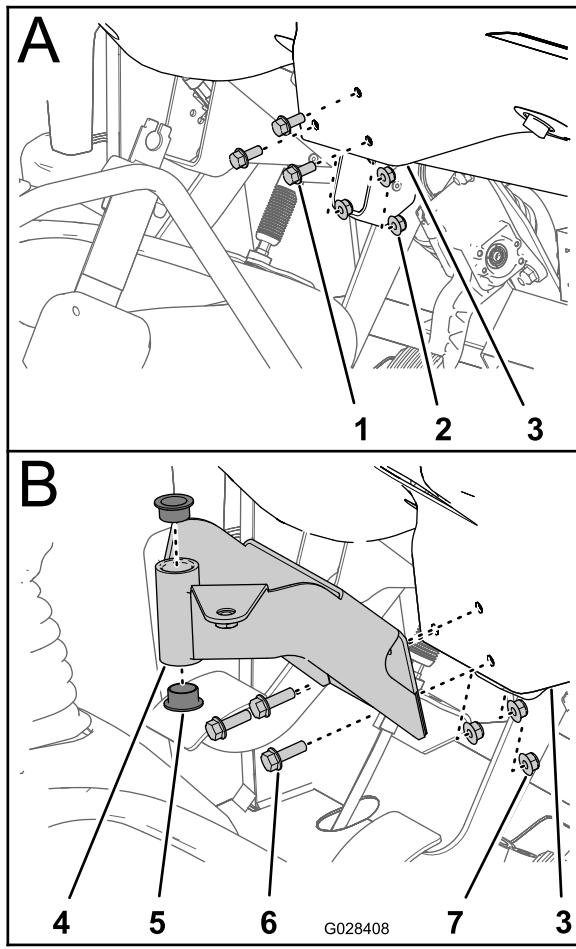

Figure 7
1. Remove the 3 bolts and 3 nuts that secure the lower-center portion of the dash panel to the dash support bracket (Figure 7).
2. Align the holes in the mounting bracket for the control console with the holes in the dash and support bracket (Figure 7).
4. Torque the nuts and bolts to (Figure 7).
5. Insert the 2 plastic bushings into the mounting bracket (Figure 7).